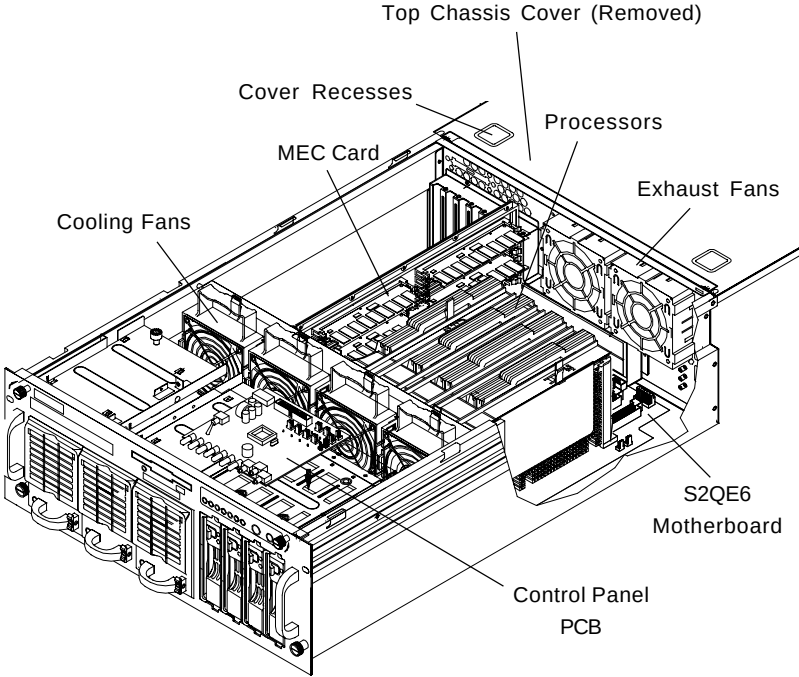

Figure 2-5. Accessing the Inside of the SuperServer 8060 (with air shroud removed and Control Panel PCB elevated)
1. Accessing the inside of the 8060 (see Figure 2-5):